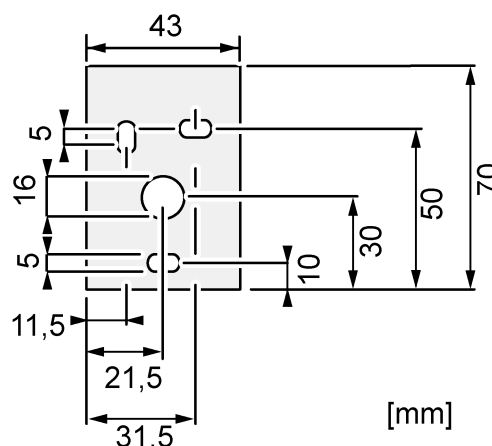

Figure 5: Template of drillholes and cable penetration
- Fasten the mounting bracket arm to the wall through the punched out boreholes (see figure 5) using suitable screws.